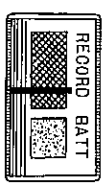

Fig. 10
3. Press down the Record key only and adjust the recording level by turning the Right and Left volume control knobs so that during the loudest sound the level meter pointer stays within the black zone. If it deflects into the red zone, distortion of the recorded sound will occur. (Fig. 10)